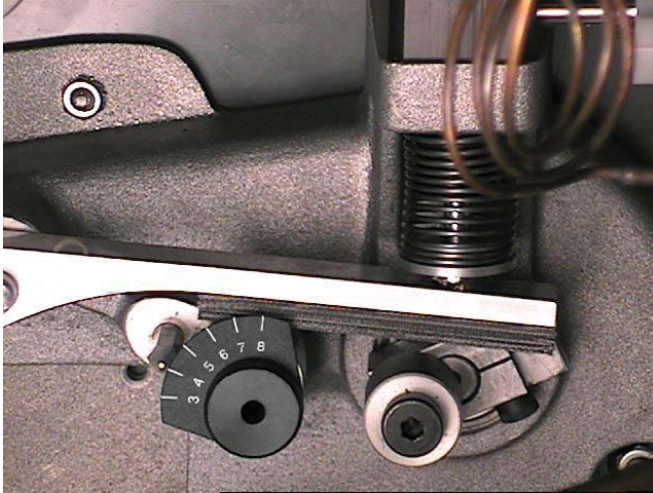

Figure 4-2 Overrun Adjustment
- C. On the air compressor side of the pump, locate the long/slender piston rocking arm. The rocking arm downward travel is limited by a stationery cam. On the face of the cam there is an overrun setting indicator plate numbered 3 through 8 and an adjustment knob (Fig. 4-2).